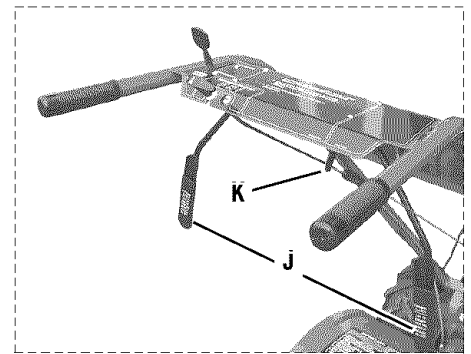
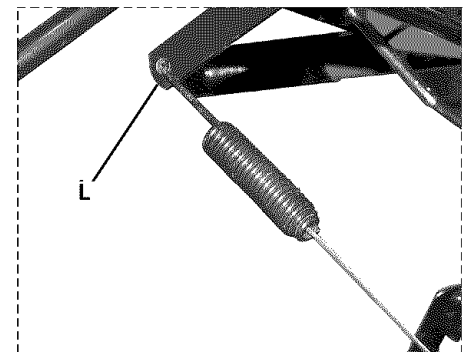

Figure 2-7: Forward Clutch Control levers (J). Forward clutch control linkage (K).
Figure 2-8
1. Remove any fasteners (rubber bands, tape, etc.) that may secure the Forward Clutch Control levers (J, Figure 2-7) to the handlebar.
2. The forward clutch control cable (with attached spring) is hanging loosely near the right-side wheel. Being careful not to kink or stretch the cable, insert the z-connector (L, Figure 2-8 – end of the spring) into the hole at the end of the forward clutch control linkage (K, Figure 2-7).